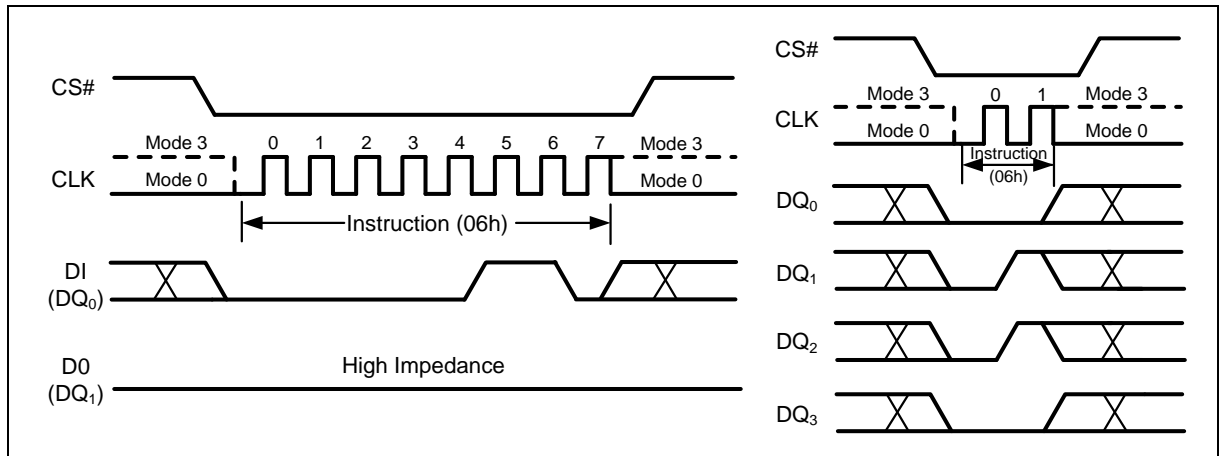

Figure 8 Write Enable Instruction for SPI Mode (left) or QPI Mode (right)
The Write Enable (WREN) instruction (Figure 8) sets the Write Enable Latch (WEL) bit in the Status Register to a 1. The WEL bit must be set prior to every Page Program, Quad Page Program, Sector Erase, Block Erase, Chip Erase, Write Status Register, Erase/Program Security Sectors and Block/Sector Lock/Unlock instruction. The Write Enable (WREN) instruction is entered by driving CS# low, shifting the instruction code “06h” into the Data Input (DI) pin on the rising edge of CLK, and then driving CS# high.